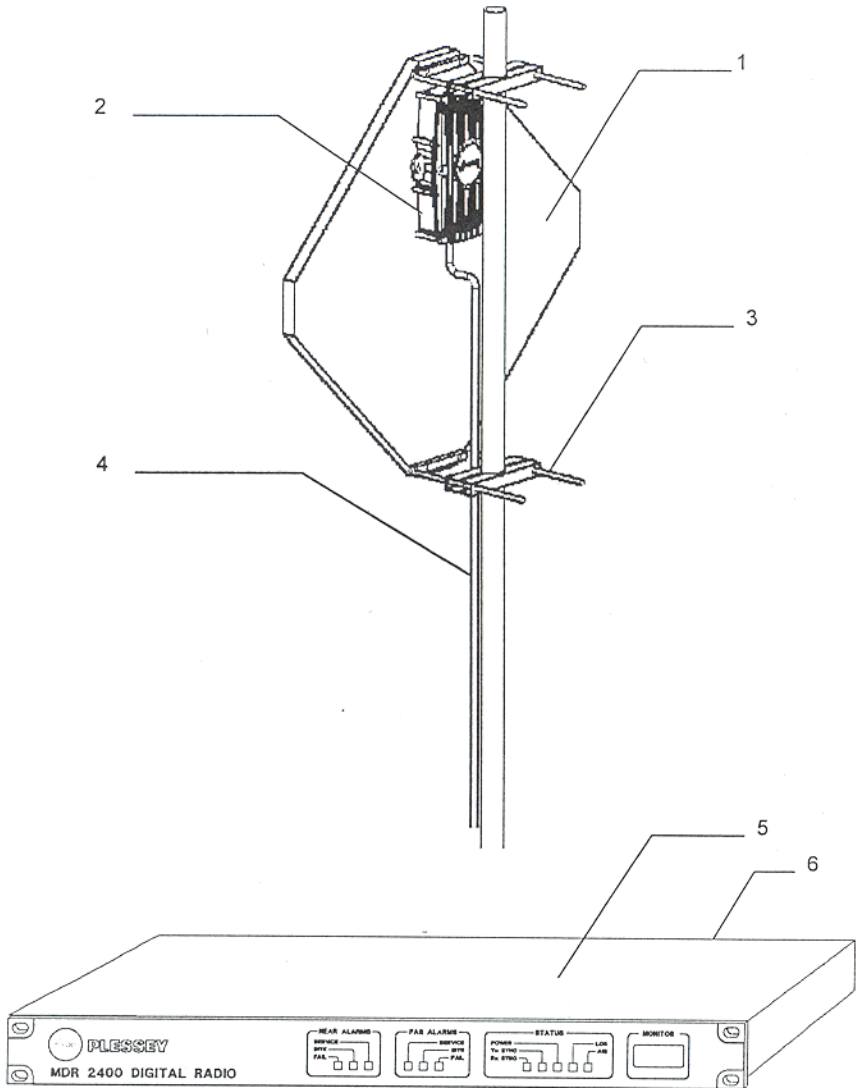

Figure 25. μLink System.
- **Item:** Indicates the annotation number referenced in the associated parts list illustration in Figure 25.
Figure 25 shows the user replaceable parts and components at the system level. Table 8 shows the actual parts list.